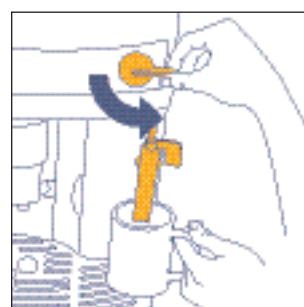
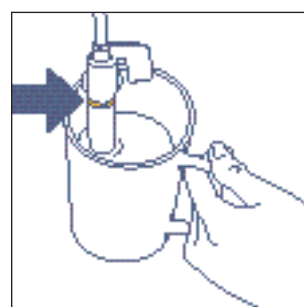

Fig.23
Fig.24
- **Immediately after, within a maximum of one minute** (otherwise the machine automatically returns to the coffee function), dip the milk frother into the container of milk (Fig. 23), making sure not to exceed the line in relief on the milk frother (indicated by the arrow in Fig.24) and turn the steam knob half a turn anticlockwise until it stops. The steam released will make the milk froth and increase in volume. To make creamier foam, dip the tip of the milk frother only a few millimetres into the milk.